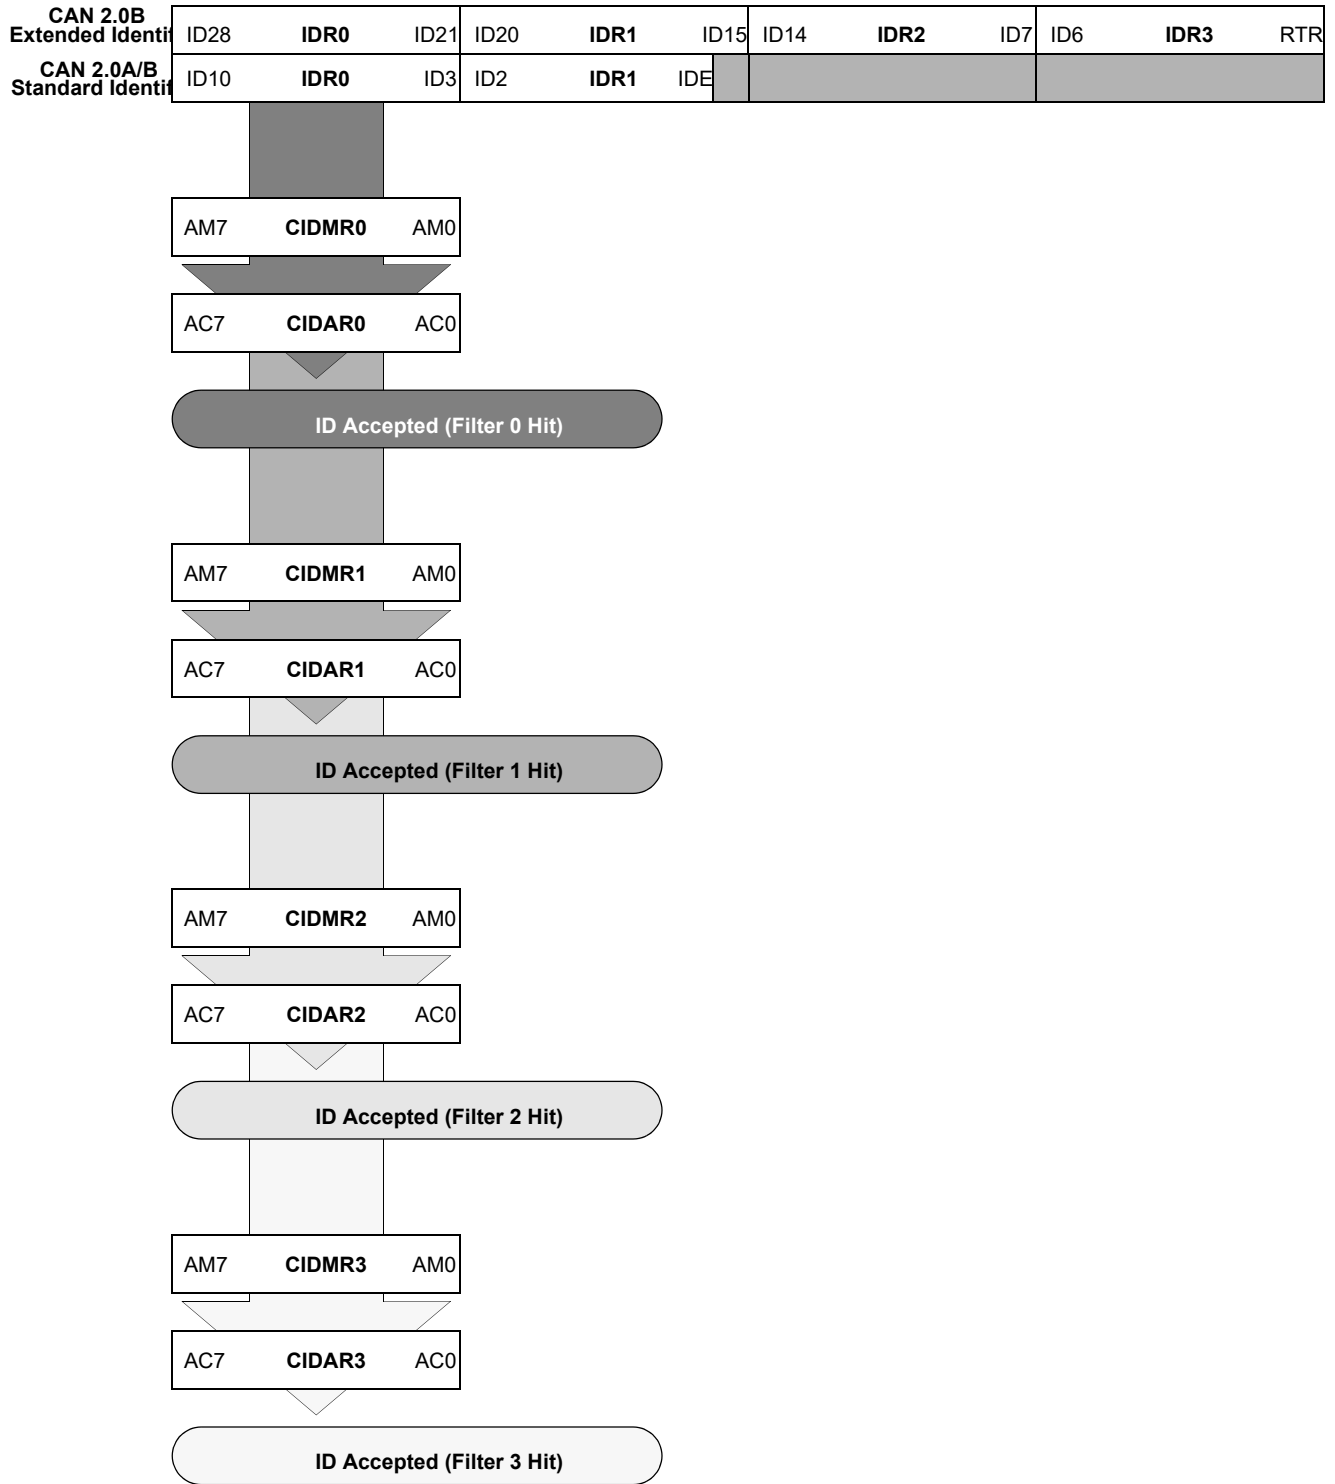

Figure 18-42. 8-bit Maskable Identifier Acceptance Filters
- Figure 18-42 shows how the first 32-bit filter bank (CANIDAR0–CANIDAR3, CANIDMR0–CANIDMR3) produces filter 0 to 3 hits. Similarly, the second filter bank (CANIDAR4–CANIDAR7, CANIDMR4–CANIDMR7) produces filter 4 to 7 hits.